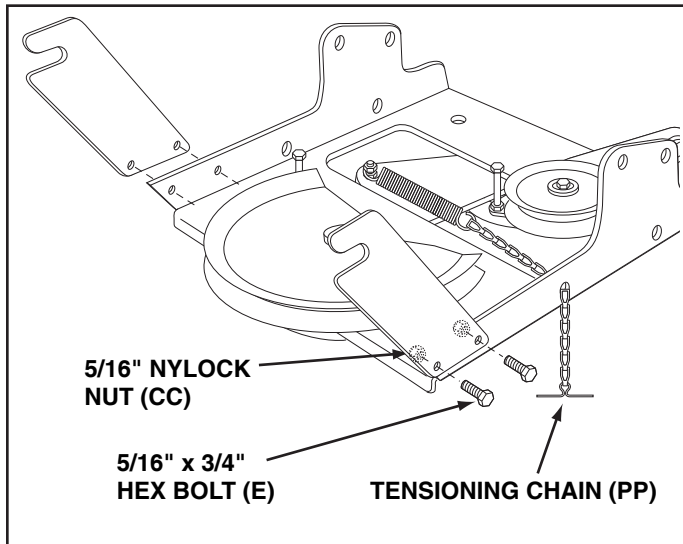

FIGURE 14
STEP 14: (SEE FIGURE 14)
- Attach the two suspension arms to the rear of the clutch/idler assembly using two 5/16" x 3/4" hex bolts (E) and 5/16" nylock nuts (CC) for each arm. Place the arms on the outside of the frame with the notches to the rear.